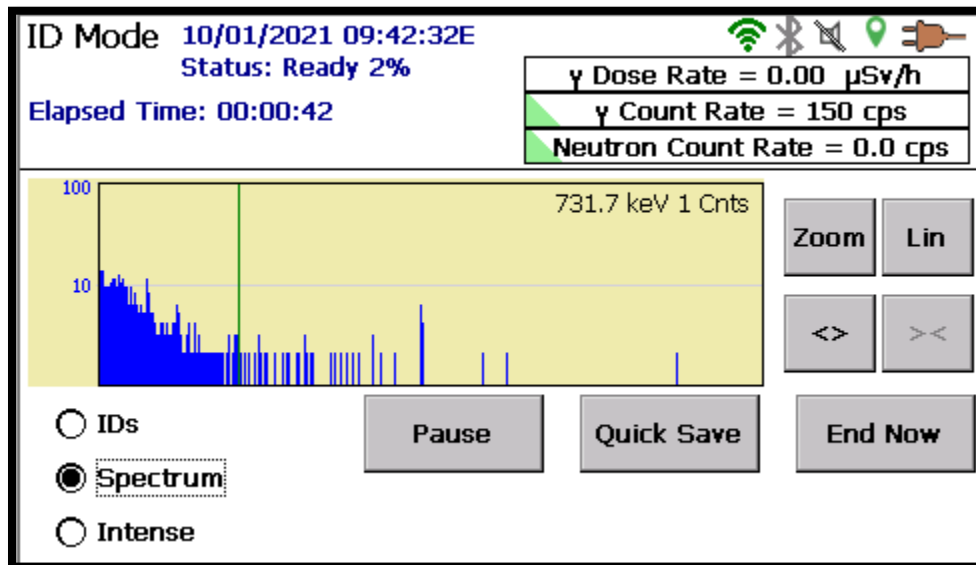
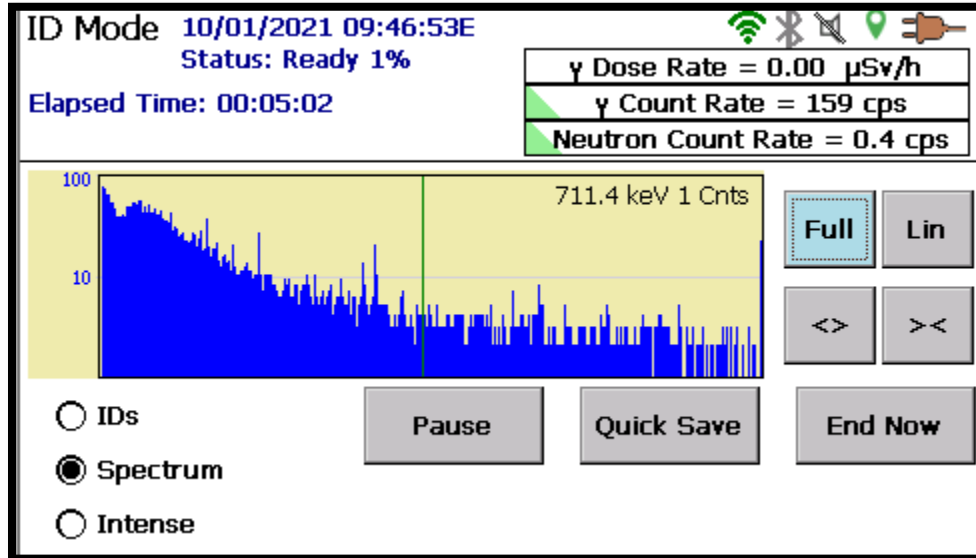

Figure 61. Entire Spectrum Displayed (Showing Marker Position and Channel Content)
Figure 62. Expanded Spectrum with Marker Near 713.2 keV (with Logarithmic Vertical Scaling)
The *Spectrum* view (Figure 61) shows the histogram of the gamma-ray energy spectrum being acquired in real time. To display the spectrum, simply tap the **Spectrum** radio button. This feature gives experienced users more information about the nuclides present so more informed decisions can be made about the material under investigation.
- **Full/Zoom** – In the expanded view, the **Full** button restores the display to 16K channels (see Figure 61). In the full view, the **Full** button changes to **Zoom** and vice versa. When the **Zoom** button is selected, it focuses the screen to the region surrounding the marker (see Figure 62). Tapping the **Full** button returns to the 16K-channel spectrum view. In this way, the user can easily look at the peaks in the spectrum in detail or move quickly from energy to energy in Full mode.